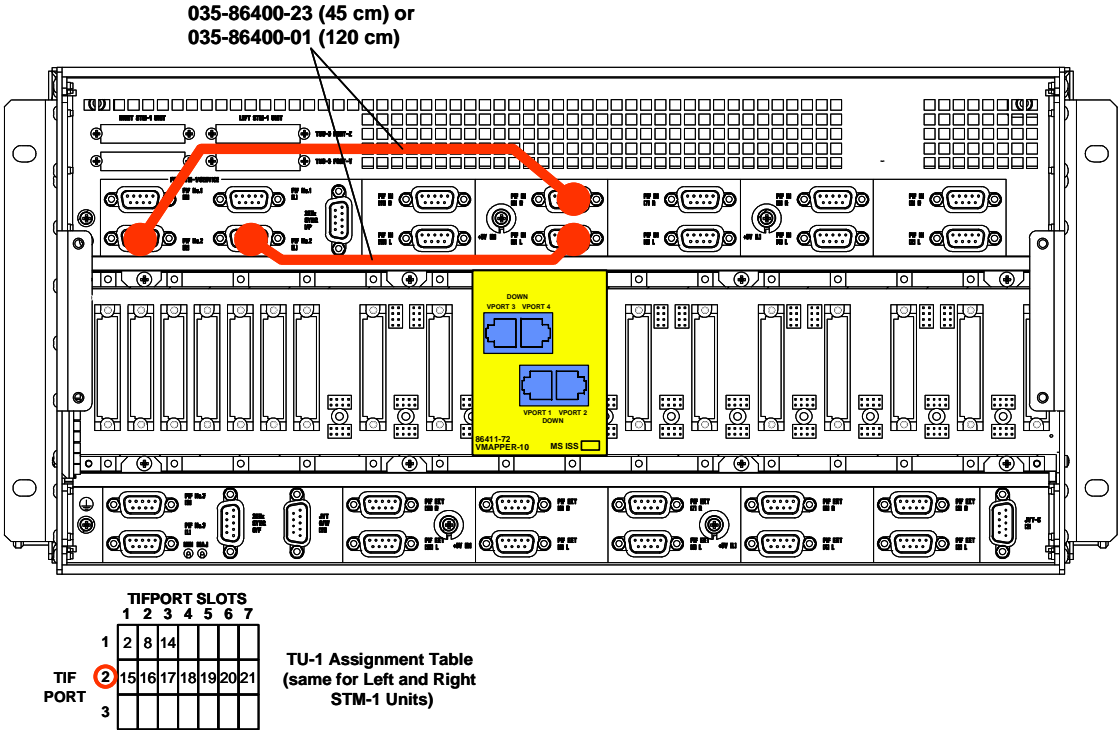

Figure 6: Example of TU-1s dropped on an unused TIFport (ring application)
6. Establish TIFport cable connections from the left and right STM-1/TUG-3 unit TIFport (for TIFport#2 these are female DB9 connectors J22 and J24 on the Common Equipment Shelf backplane) to the upper and lower DB9 connectors above the VMapper-10 unit paddleboard respectively (see Figure 6). (For more information on the shelf connectors and cabling refer to the TN1Ue Equipment Shelf TPIM.)